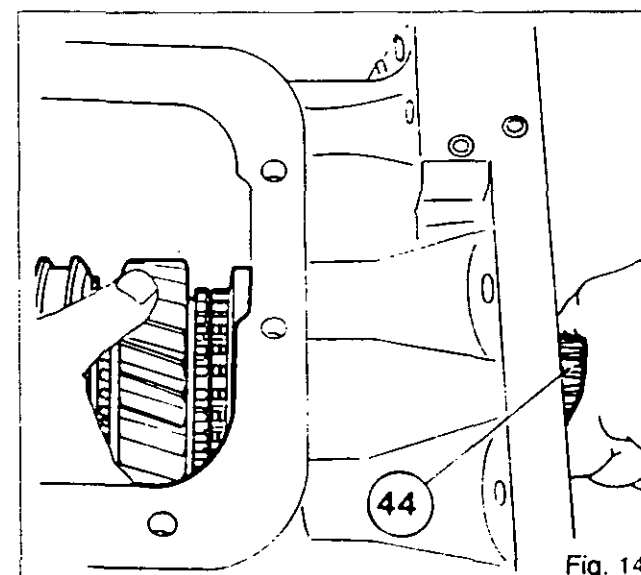

Fig. 14
#### 47. Insert output shaft (44) while holding the gear assembly in position (Fig. 14).